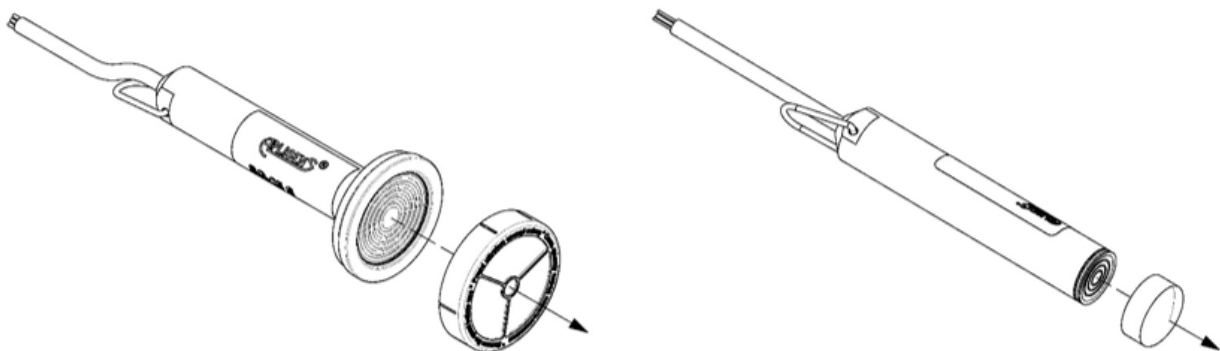

**Figure 1.** Mounting brackets for probes.
The depth probes are installed in places where the liquid level is measured in wells, tanks, boreholes, etc. The probe is immersed in the measured medium. A special cable extends above the medium level and can be connected directly to the device cooperating with the probe or to the junction box. The probe can be hung on the power cable, e.g. by using Aplisens SG cable hanger (item 1 in Fig. 1). In the event of frequent removal of the probe or when there is a risk of catching on protruding elements during pulling up, it is recommended to hang the probe on a steel cord using the carrying eye (item 2 in Fig. 1 - does not apply to SGE-16 probes).